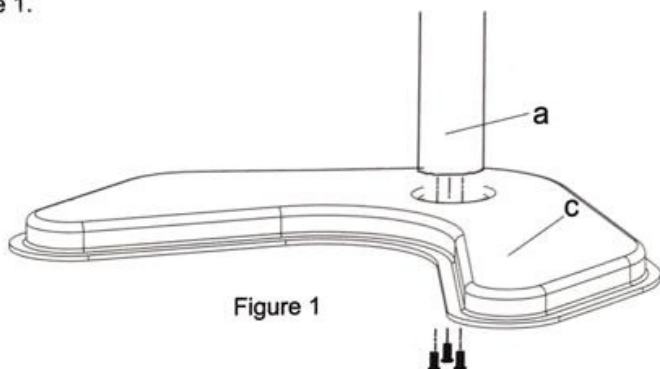

Figure 1
2. Install the "c"-Clamp Brace(c) to the Pole(a) using 3pcs M5x20 Bolts, and tighten using the Allen Key(o), see Figure 1.